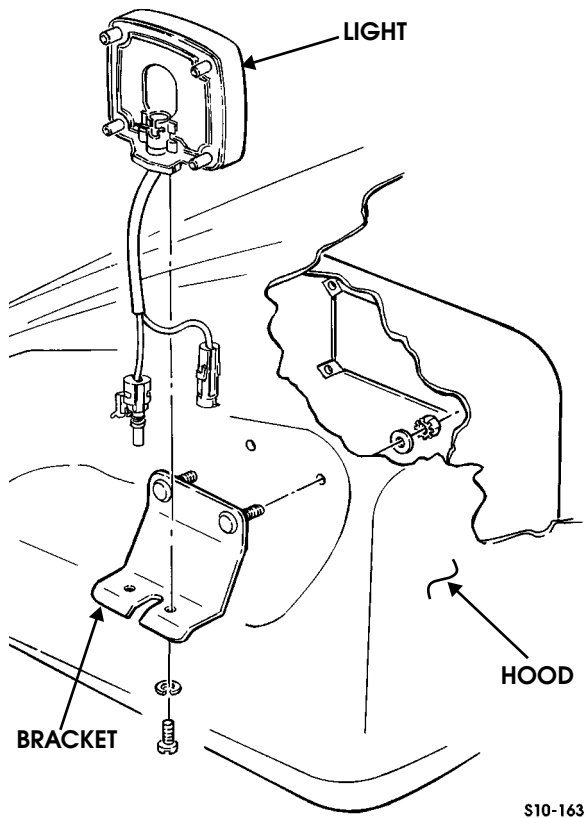

Figure 10-165: Front Turn Signal Bracket
5. Remove two nut and lockwasher assemblies, washers, bracket, and light from hood (Figure 10-165).
1. Secure light to bracket with two lockwashers and screws (Figure 10-165).